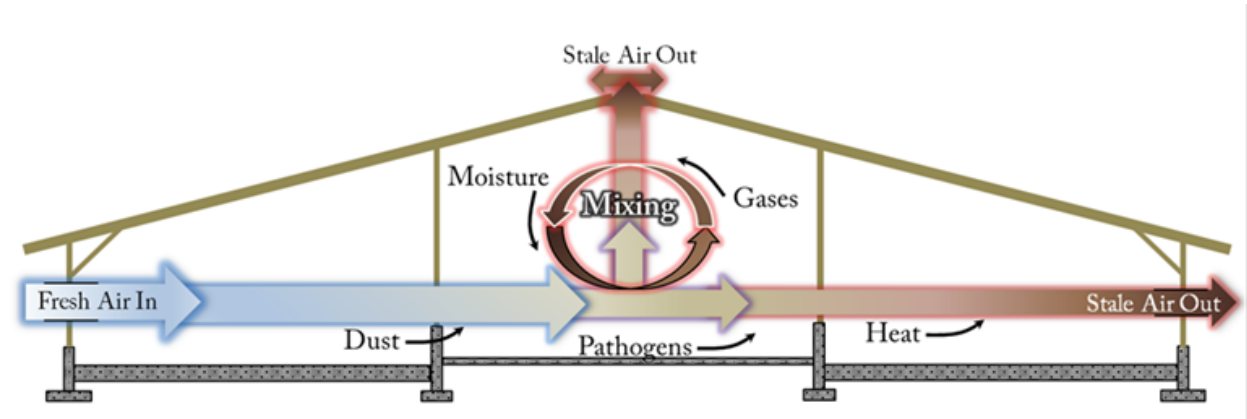

Figure 2 Credit to Donnie Stamper
5. **Roof ventilation.** The roofline and a ridge vent are extremely important to provide maximum ventilation to remove air pollutants. (Figure 2). A 4/12 pitch is ideal. A ridge vent design with a 3-inch opening for every ten feet of width running the full length of the building should provide adequate airflow.